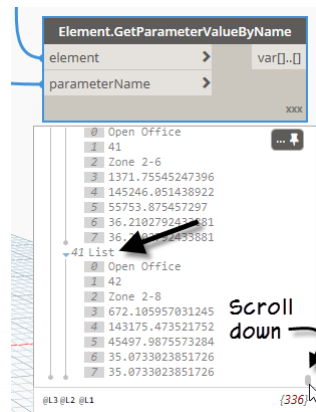

Figure 63
20. Run the graph and study the list that results in the Preview Bubble (see Figure 63).